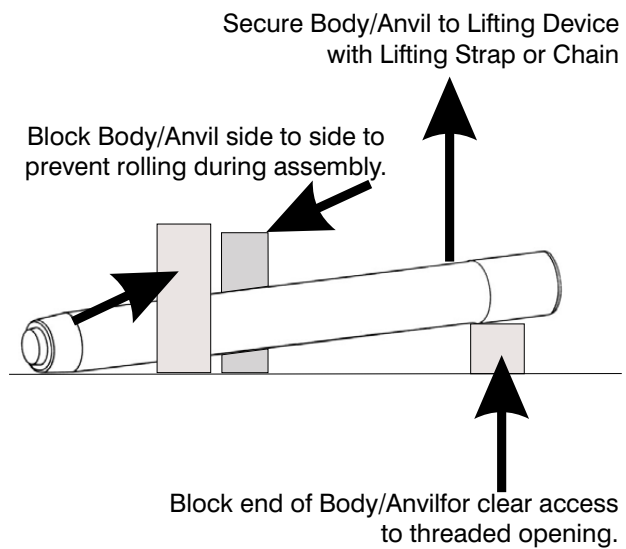

Figure 9-33. Block Body/Anvil for Assembly
3. Place the Body/Anvil (1) on the work surface. Block it so the open end is easily accessible and the Body/Anvil will not accidentally roll off the work surface. Refer to Figure 9-33.